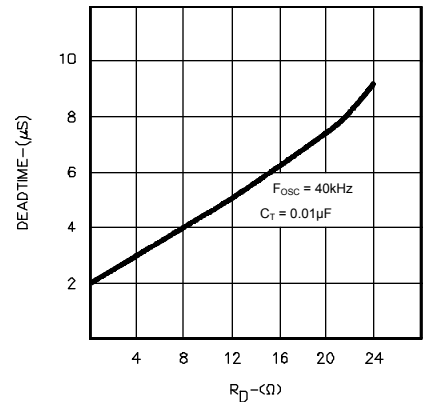

FIGURE 12. OUTPUT DRIVER DEADTIME VS.  $R_D$  VALUE
2. If more dead time is required, select a larger value of  $R_D$  using Figure 12 as a guide. At 40 kHz dead time increases by 300 ns/ $\Omega$ .